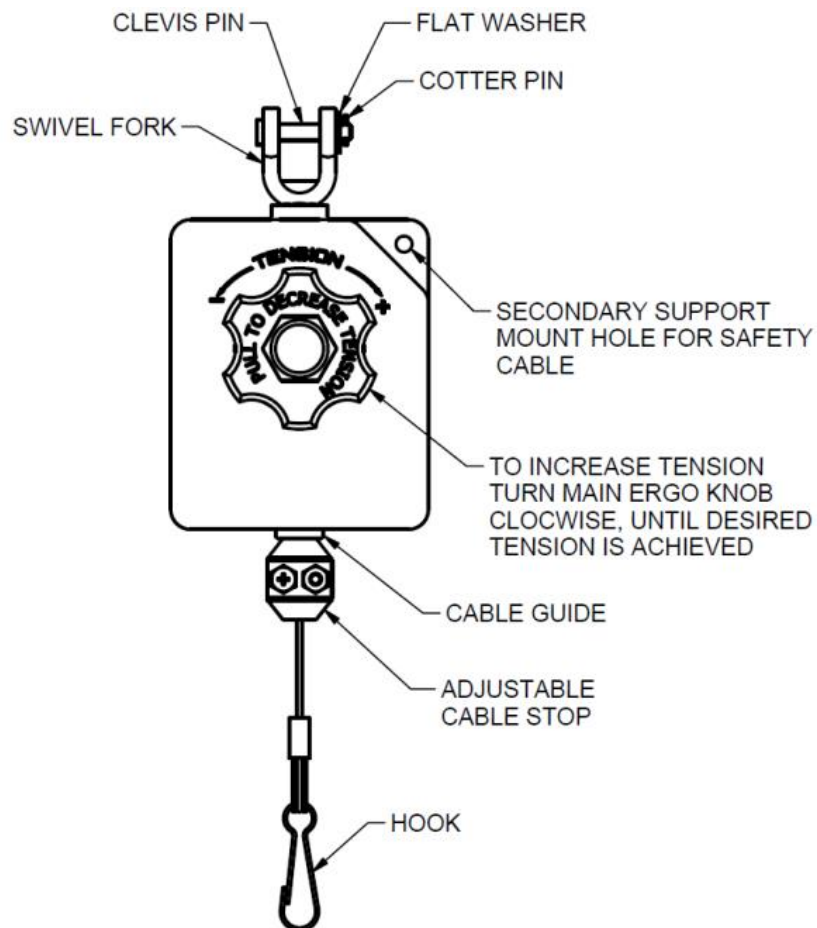

FIG. 06
- To increase tension, turn Tension Knob (on the front of the retractor) clockwise or in the “+” direction until desired tension is achieved – See **FIG. 06**.
- To decrease tension, pull Tension Knob out such as to disengage from ratchet teeth on front of case and turn counter-clockwise or in the “-” direction until pre-load is relieved from cable stop – See **FIG. 06**.